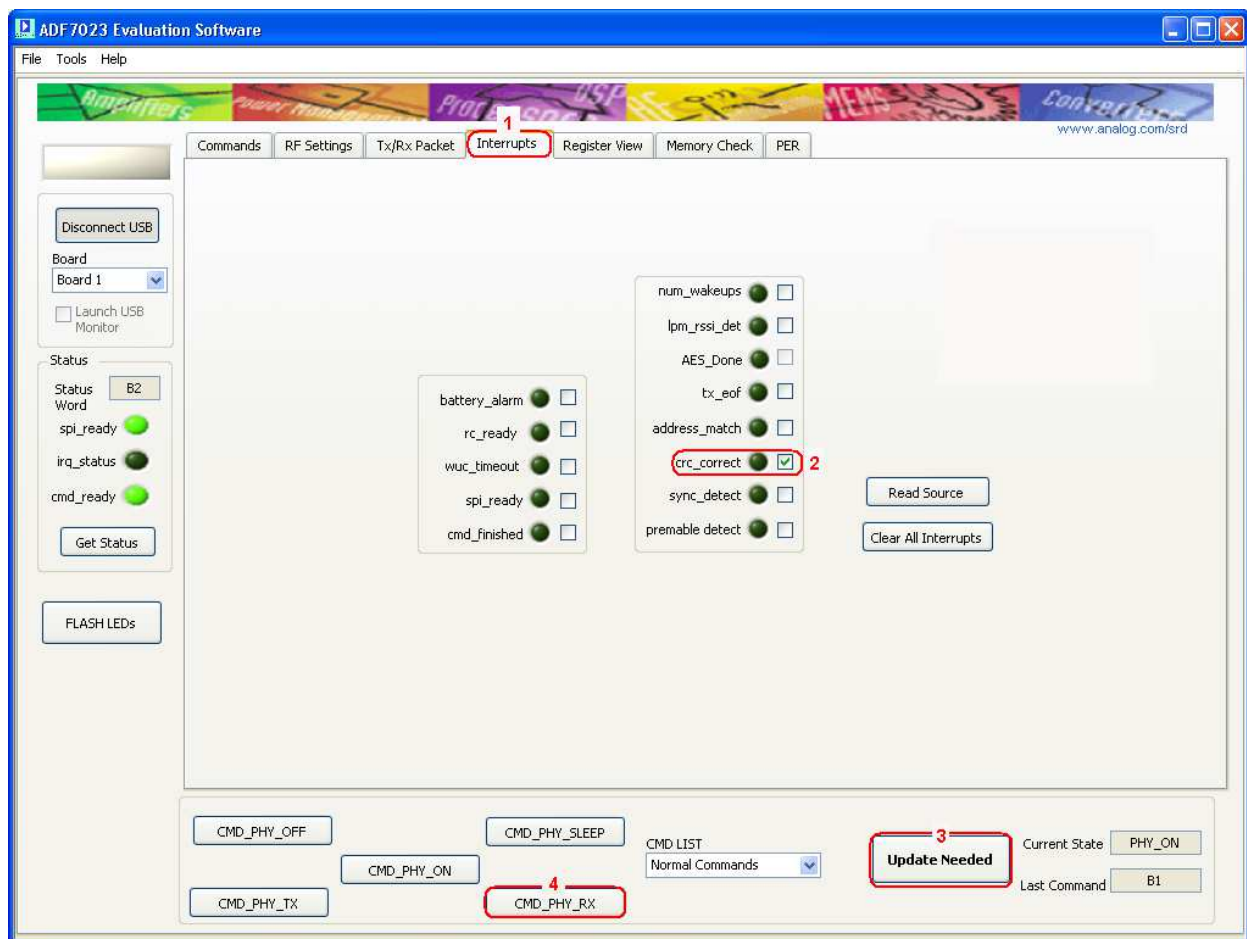

Figure 33
Interrupts may be configured for various conditions in the “**Interrupts**” tab. (Figure 33 point (1))
1. Set the “**crc_correct**” interrupt. (Figure 33 point (2))
2. Write the settings to the device using the “**Update Needed**” button. (Figure 33 point (3))
3. Put the part into Receive by pressing “**CMD PHY RX**” (Figure 33 point (4))